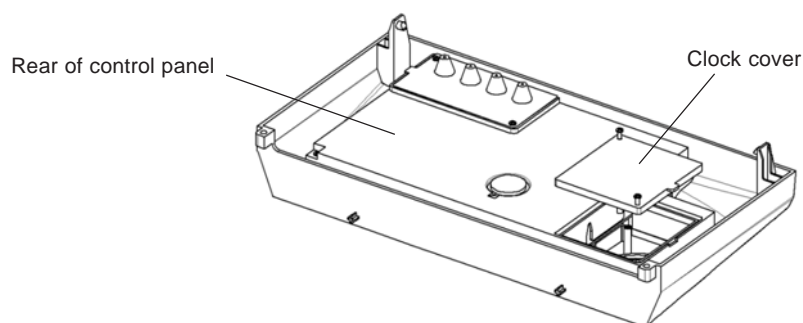

Fig. 21
4.9 FIT THE CLOCK KIT - Fig. 21